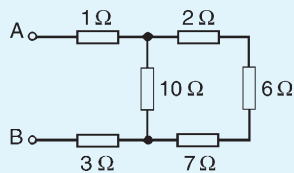

Figure 13.92
7. The equivalent resistance across terminals  $AB$  of Fig. 13.92 is: